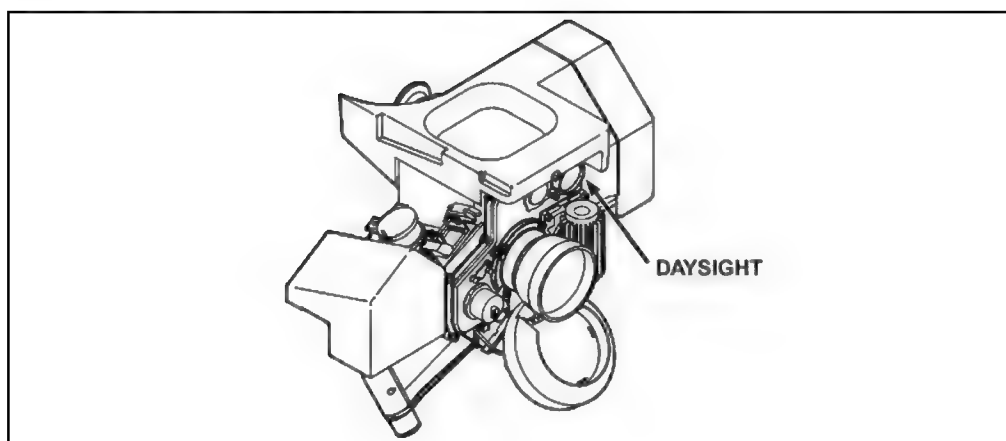

Figure 1-10. Daysight.
e. **Daysight.** The daysight works much like a telescope and consists of a lens, status indicators, and an eyepiece (Figure 1-10). The daysight.
- (1) Provides the gunner a visible-light image with 4X magnification for target viewing and battlefield surveillance.
- (2) Can be used with power off for surveillance only to save battery life.
- (3) Is not affected by infrared clutter.